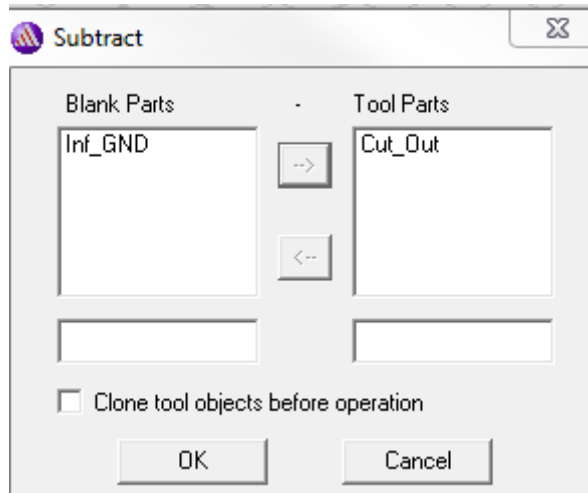

Figure 16. Subtract dialog box
- 2 Set the fields as in Figure 16 and click **OK**.